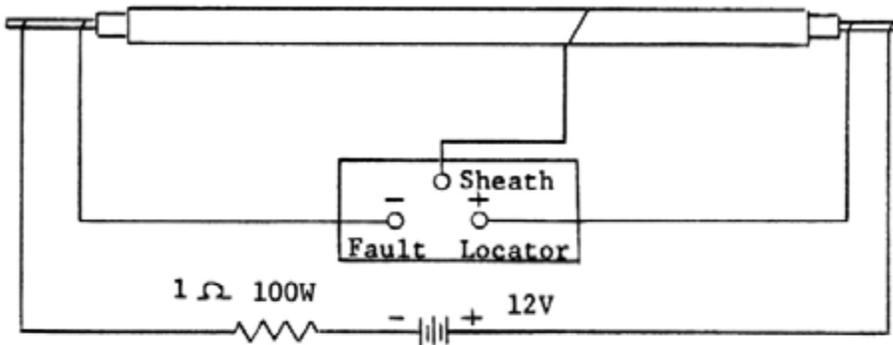
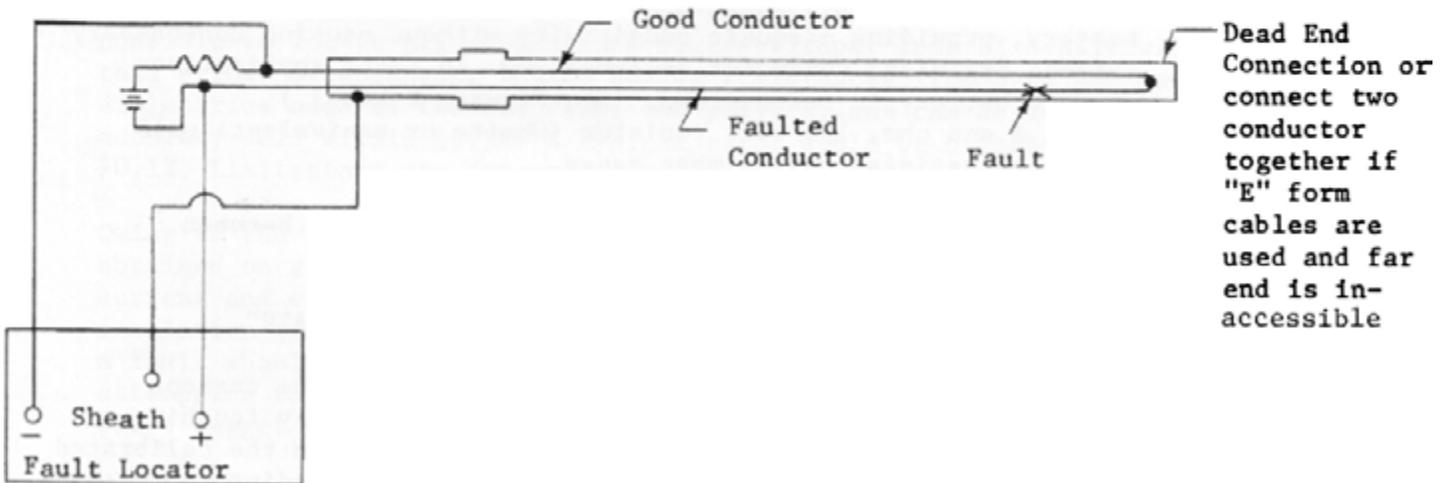

FIGURE 2: Fault to sheath; both ends of faulted conductor accessible at the same point.
FIGURE 3: Fault to sheath, two conductor cable.
#### A. CONNECTIONS WHEN BOTH ENDS OF THE FAULTED CONDUCTOR ARE AT THE SAME POINT. SEE FIGURES 2 & 3.
- 3) When testing conductors having a loop resistance of less than one ohm, use a one-ohm resistor in series with the battery. This limits the current to some value less than 12 amps from a 12-volt battery, providing adequate sensitivity without causing unnecessary current drain and conductor self-heating. In these applications an auto battery is recommended. (See Figures 2 and 3.)
NOTE: The total length of the cable loop means the total length of cable between the potential points, that is, the points at which the leads to the terminals of the instrument are connected to the cable. This equal to the length of the cable in the case shown in Figure 2 but is equal to twice the length of the cable in Figure 3.